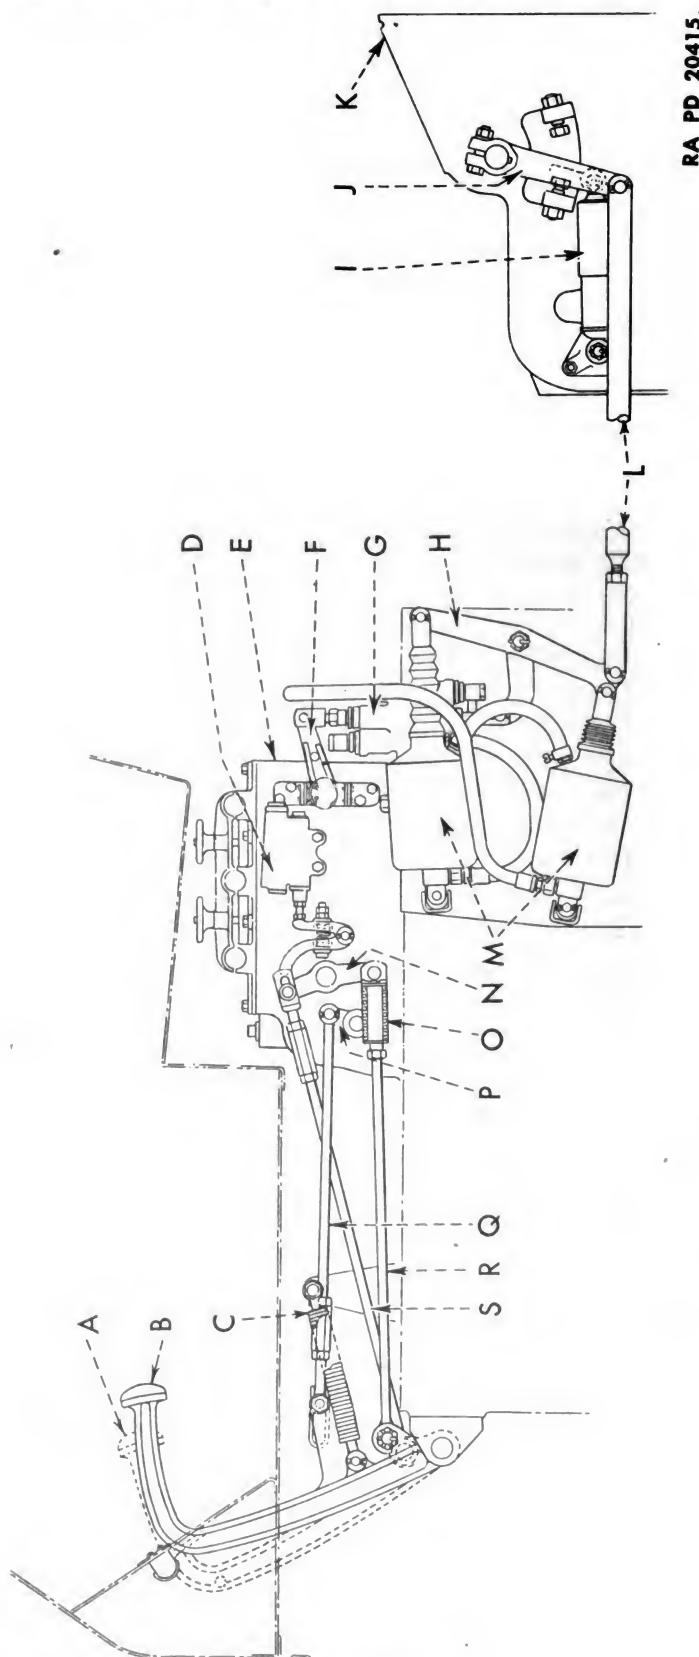

Figure 157 — Engine Clutch Controls — Clutch Engaged in High Range
96. DESCRIPTION (fig. 157).
97. OPERATION (fig. 157).
a. A clutch shifting lever (J), located at the side of the clutch housing (K), controls the engagement or disengagement of the two-way engine clutch. When the lever is in a vertical position, the clutch is disengaged. When it is in a forward position, the clutch is engaged in high range. When it is in a rear position, the clutch is engaged in low range. The movement of the clutch shifting lever is controlled by the operator through the clutch pedals and controls. With normal air pressure (80 to 100 pounds), the operator uses only the service clutch pedal (B) to operate the clutch, and this is referred to as "normal clutch operation" (see subparagraph b). With no air pressure, the operator uses both the service clutch pedal (B) and emergency clutch pedal (A) to operate the clutch manually, and this is referred to as "emergency clutch operation" (subpar. c below). Following is a detailed description of what takes place in the clutch controls when the pedals are moved through
Legend for Figure 157 — Engine Clutch Controls — Clutch Engaged in High Range
(1) **CLUTCH ENGAGED.** When the service clutch pedal is released, all the way up, the engine clutch is engaged in either high or low-range. Figures 157 and 158 show the clutch controls in high-range. Note in figure 157 that the clutch shifting lever (J), which is located at the side of the clutch housing, is in the high-range position against the forward stop screw.
(2) **DISENGAGE CLUTCH** (figs. 157 and 158). When the service clutch pedal (AA) is depressed to neutral, approximately $\frac{2}{3}$ of the way down, it moves the service clutch pedal rod (ZZ), and also the lower end of the clutch selector range lever (VV), forward. The clutch selector range lever shaft is splined to the inner-range lever (JJ), which is located inside the selector housing. This inner-range lever (JJ) has an upper arm, which is connected to the high-range lever (MM) by a rod with yoke (LL), and a lower arm, which is connected to the low-range lever (SS) by a rod with yoke (UU). Forward movement of the lower end of the clutch selector range lever (VV) causes the high-range lever (MM) to move down, and the low-range lever (SS) to move up. This movement, up or down, is transferred to the intermediate lever (OO) by a sliding shifting lever pin (PP). When the pin engages a hole provided in the high-range lever (MM), the intermediate lever (OO) moves with the high-range lever. When the pin engages the low-range lever (SS), the intermediate lever (OO) moves with the low-range lever. Since we are disengaging the clutch from high-range, the shifter lever pin (PP) is engaged into the high-range lever (MM), and the intermediate lever (OO) moves down with the high-range lever until it strikes a stop on the low-range lever (SS). In this position the holes in both the high and low-range levers are in line with the shifting lever pin, and the pin could be moved endwise to engage either lever if it were free to do so. The downward movement of the intermediate lever (OO) is transferred through the valve lever link (TT) and the inner valve lever (RR) to the clutch shifting valve lever (QQ), causing the latter to move down to a horizontal position. The clutch shifting valve lever (QQ) is linked to the power cylinder lever (H) by a shifting valve (G). This is a follow-up type of valve that controls the flow of air pressure to the power cylinders (M). These power cylinders actuate the power cylinder lever (H) in proportion to the movement of the clutch shifting valve lever (F). The downward movement of the clutch shifting valve lever (F) causes the lower power cylinder to push the lower end of the power cylinder lever (H) toward the rear. It also moves the clutch shifting lever rod (L) and the clutch shifting lever (J) toward the rear until the clutch shifting lever is positioned midway between the two stop screws. This disengages the clutch.
(5) **ENGAGE CLUTCH** (figs. 157 and 158). As the service clutch pedal (AA) is released from neutral, the lower end of the clutch selector range lever (VV) moves back, and the low-range lever (SS) moves down, carrying with it the intermediate lever (OO). This movement is transferred through the valve lever link (TT), inner valve lever (RR), clutch shifting valve lever (QQ), clutch shifting valve (G), power cylinder lever (H), and clutch shifting lever rod (L), to the clutch shifting lever (J), causing it to move to the rear position and engage the clutch in low-range. This completes the shifting of the engine clutch from high-range to low-range. A snubber (I) is attached between the clutch shifting lever (J) and the anchor mounted on the side of the clutch housing (K). Its purpose is to suppress the forces set up by the power cylinders which operate the clutch, and thus protect the clutch mechanism and two stop screws from unnecessary shock. The stop screws limit the travel of the clutch shifting lever (J).
(1) **CLUTCH ENGAGED.** When the engine clutch is engaged in high-range, the controls are in the position shown in figures 157 and 158.
(2) **DISENGAGE CLUTCH** (figs. 157 and 158). The operation of disengaging the engine clutch without the aid of air pressure
(3) ENGAGE CLUTCH (figs. 157 and 158). The emergency clutch pedal (A) is connected to the upper end of the clutch selector range lever (N) by the emergency clutch pedal rod (S). Movement of the emergency clutch pedal (A) to the toeboard causes the upper end of the range lever (N) to move forward. This movement is transferred (through the inner range lever (JJ) and the rod with yoke (UU)) to the low-range lever (SS), which moves down. The intermediate lever (OO) also moves down with the low-range lever (SS), due to the engagement of the shifting lever pin (PP). The downward movement of the intermediate lever (OO) is transferred, through the valve lever link (TT), inner valve lever (RR), clutch shifting valve lever (QQ), clutch shifting valve (G), power cylinder lever